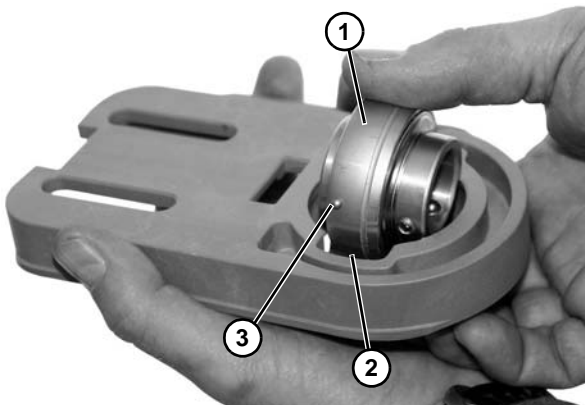

Figure 115
3. Turn bearing (**Figure 115, item 1**) to align with slots (**Figure 115, item 2**) in bearing housing. Then remove bearing.
5. Insert bearing (**Figure 115, item 1**) into housing slot. Locate anti-rotation nub (**Figure 115, item 3**) to align with slot (**Figure 115, item 2**) and twist bearing into housing.